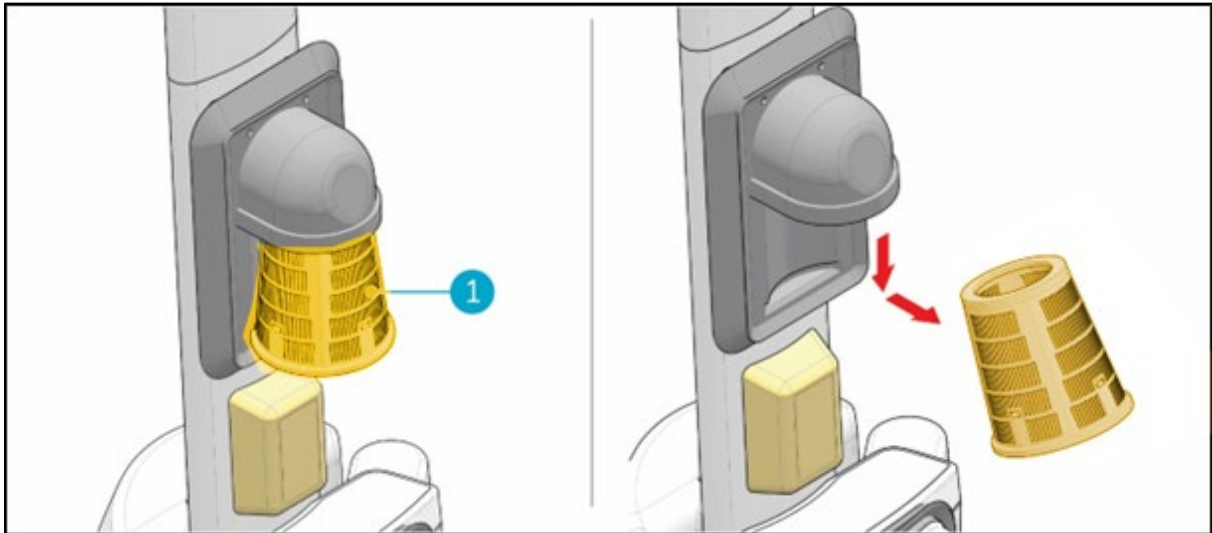

Figure 22
3. Release the yellow suction filter (Figure 22, pos 1) from beneath the rubber holder by tilting it slightly and pulling it out.